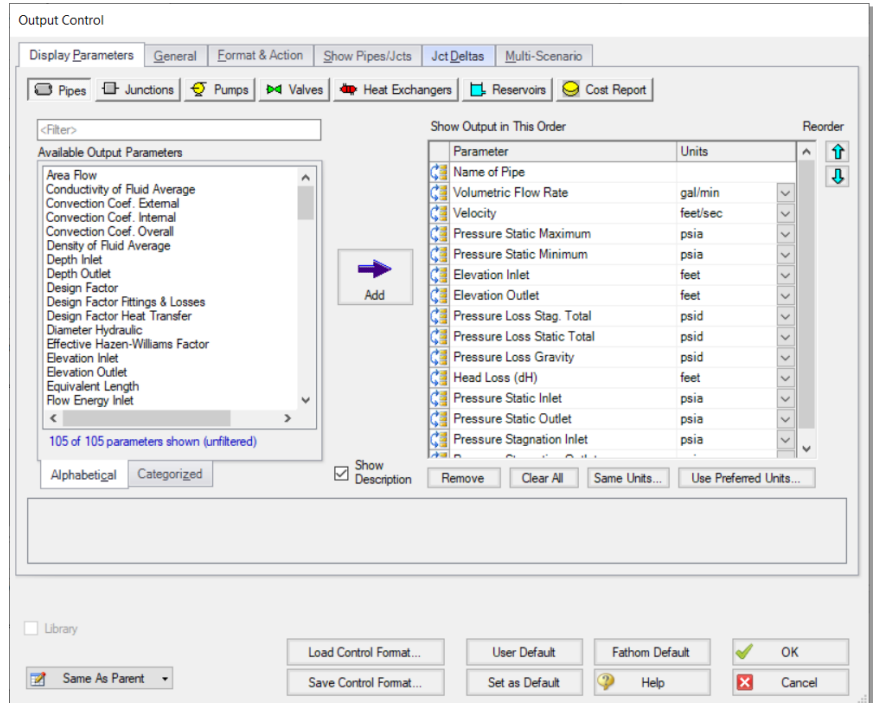

Figure 2.22 Customize the output using the Output Control window
Select the specific output parameters and units that you want in your output report using the Output Control window (Figure 2.22).
- **Select Output Control from the Common Toolbar** or from the Tools menu to open the Output Control Window (see Figure 2.22). On the Display Parameters tab, Pipes output type, the right-hand side lists the pipe output parameters to display in the output. Change the units for Volumetric Flow Rate by selecting the dropdown arrow next to gal/min, then selecting gal/hr (gallons per hour) from the unit list.
- **Select Output Control from the Common Toolbar again.** On the Display Parameters tab, Pipes output type, the Reorder scroll bar on the far right allows you to reorder parameters in the list. You can also click on the reorder symbol on the left side of each row to manually drag-and-drop the rows to change the parameter order (see Figure 2.22).